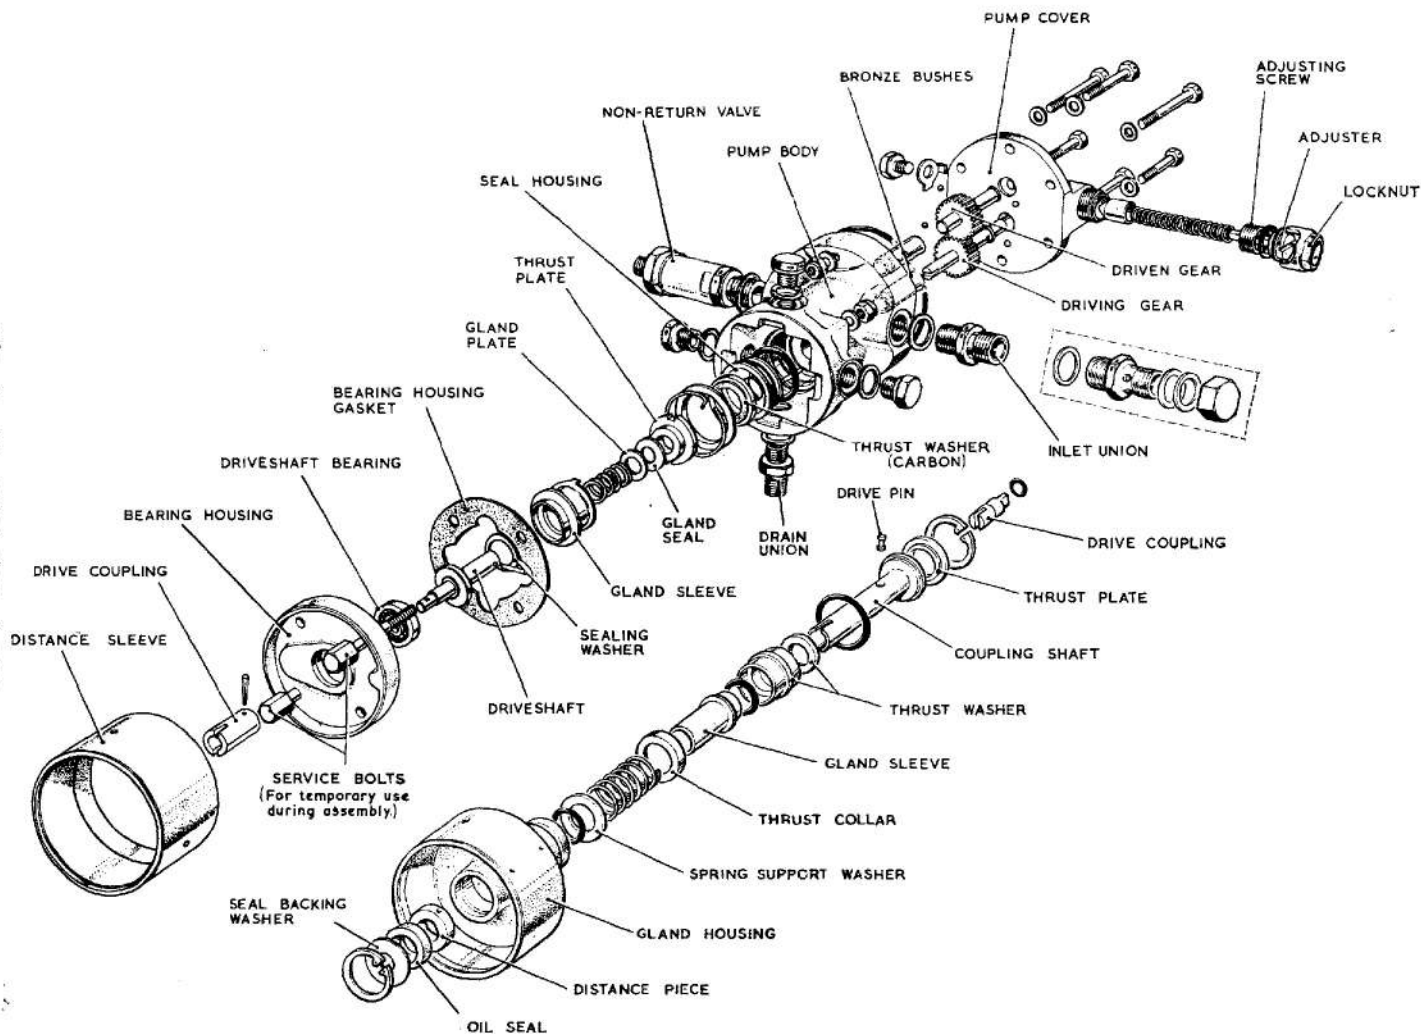

Fig. 2. Exploded view of pump
5. The pump unit, fig. 2, consists of an aluminium alloy body which houses a drive shaft assembly or gland assembly, two shaft mounted spur gears and the relief valve assembly (pump cover). Two bronze bushes form the journal bearings for the gear shafts, and the pump gears are located on the shafts by steel balls. The gear end of each shaft abuts a steel ball housed in the pump cover to prevent axial movement. A gland drain connection is provided at one of four alternative positions 90 degrees apart.